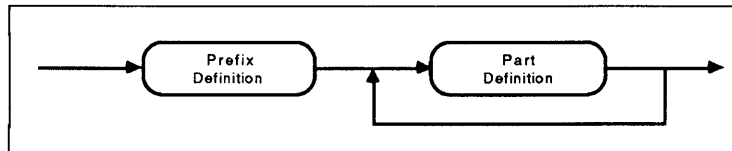

Figure 20-1. Syntax diagram for a library source file.
Figure 20-1 is an example of a syntax diagram. It represents the complete syntax for a library source file.
3. Junctions represent a connection point where you have the choice of selecting another path. For example, the syntax diagram for the library source file shown in figure 20-1 has a junction after a Part Definition. You can choose to complete the diagram or to make another Part Definition.
4. You cannot travel a path going against the arrows. For example, in figure 20-1, you cannot return to the prefix definition after you make a part definition.
**Identifiers** Identifiers serve as placeholders for a more detailed level of syntax structure. They do not represent command syntax or tokens. Rather, they provide the ability to give an overview of the syntax. When you create the part, you must work down through all the nested identifiers. For example the syntax diagram for a library source file shown in figure 20-1 has two identifiers (Prefix Definition and Part Definition) and no tokens.